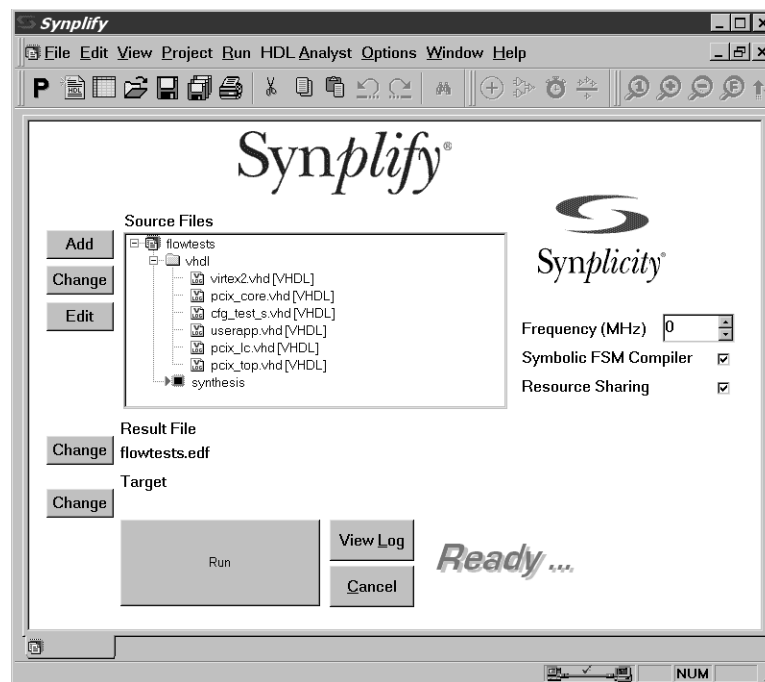

Figure 5-14: Main Project Window
8. In the Source Files list, view the list of newly added source files by double-clicking the flowtest/vhdl folder (if it is not already open). Drag to reorder the source files in the hierarchical order shown in Figure 5-14.